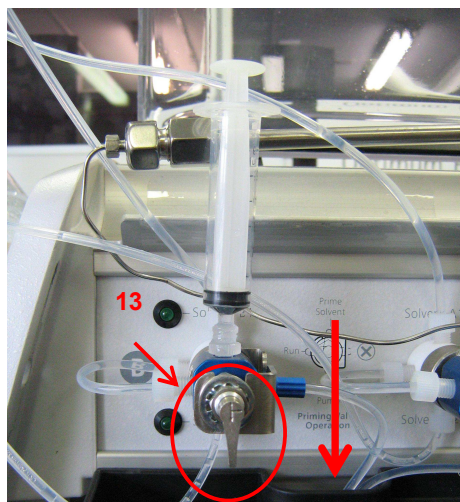

Figure 15: Flushing the pump line
3. Once the syringe is full, then turn the valve selection switch to the down position (**13**) to flush out the line going to the inlet valve of the pump (*Figure 15*). Loosening the tube end by the check valve allows the bubbles to flush out.